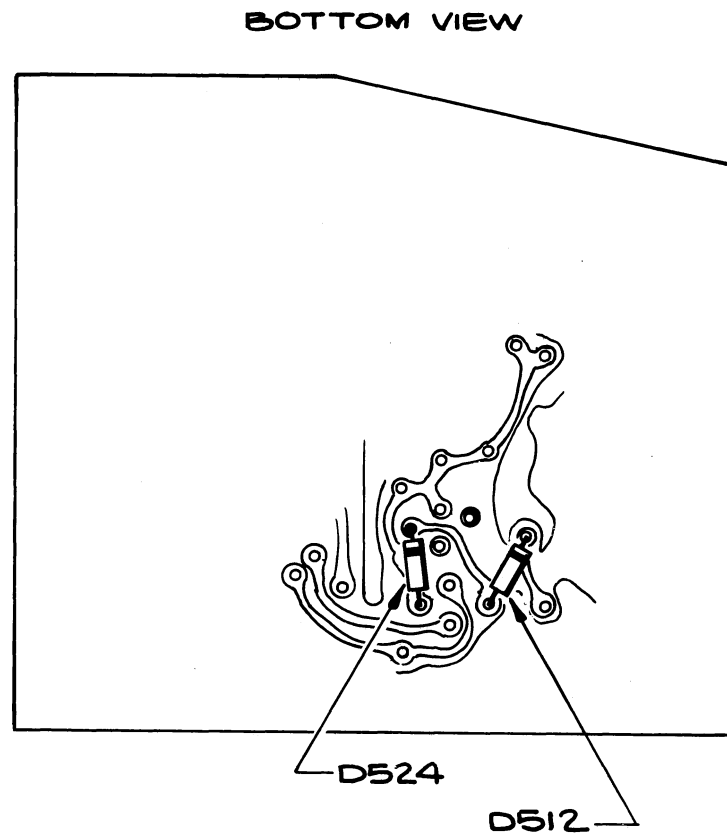

FIG. 2
- 3) Install D512 (removed in step 1) between the emitter and base of Q513 as shown in Fig. 2.
- 4) Install D524, a 6233 diode, between the base and collector of Q524 as shown in Fig. 2.